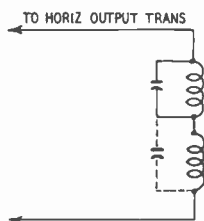

Fig. 4-V. The capacitor across one of the horizontal windings in the yoke may be misplaced, as shown by dashed lines in the drawing.
**SERVICE:** Capacitor across one of the windings of the horizontal-deflection coils may be misplaced. Transfer as shown in Fig. 4-V.